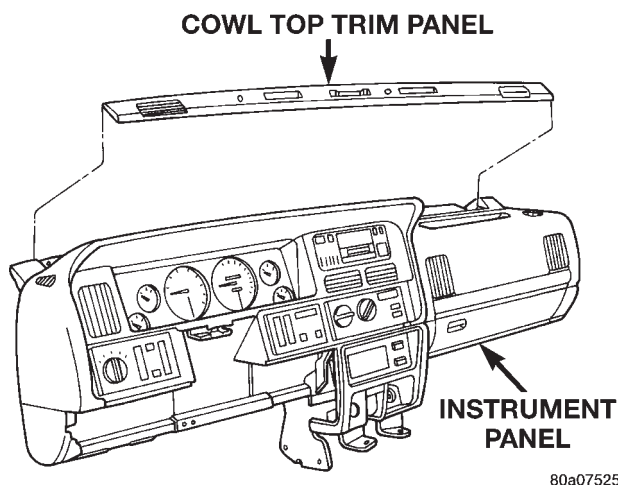

Fig. 21 Cowl Top Trim Remove/Install
- (1) Disconnect and isolate the battery negative cable.
(2) Using a wide flat-bladed tool such as a trim stick, gently pry the cowl top trim panel off of the instrument panel top pad (Fig. 21).